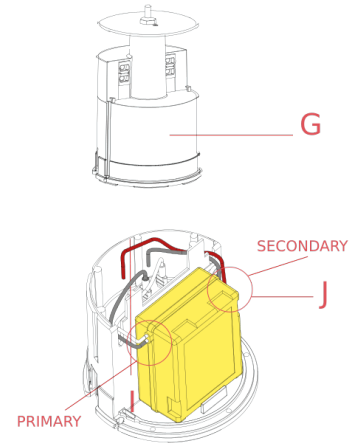

Fig.3
Collocate the housing (G) back in a way that covers the power supply (J). (fig.3 page 2)